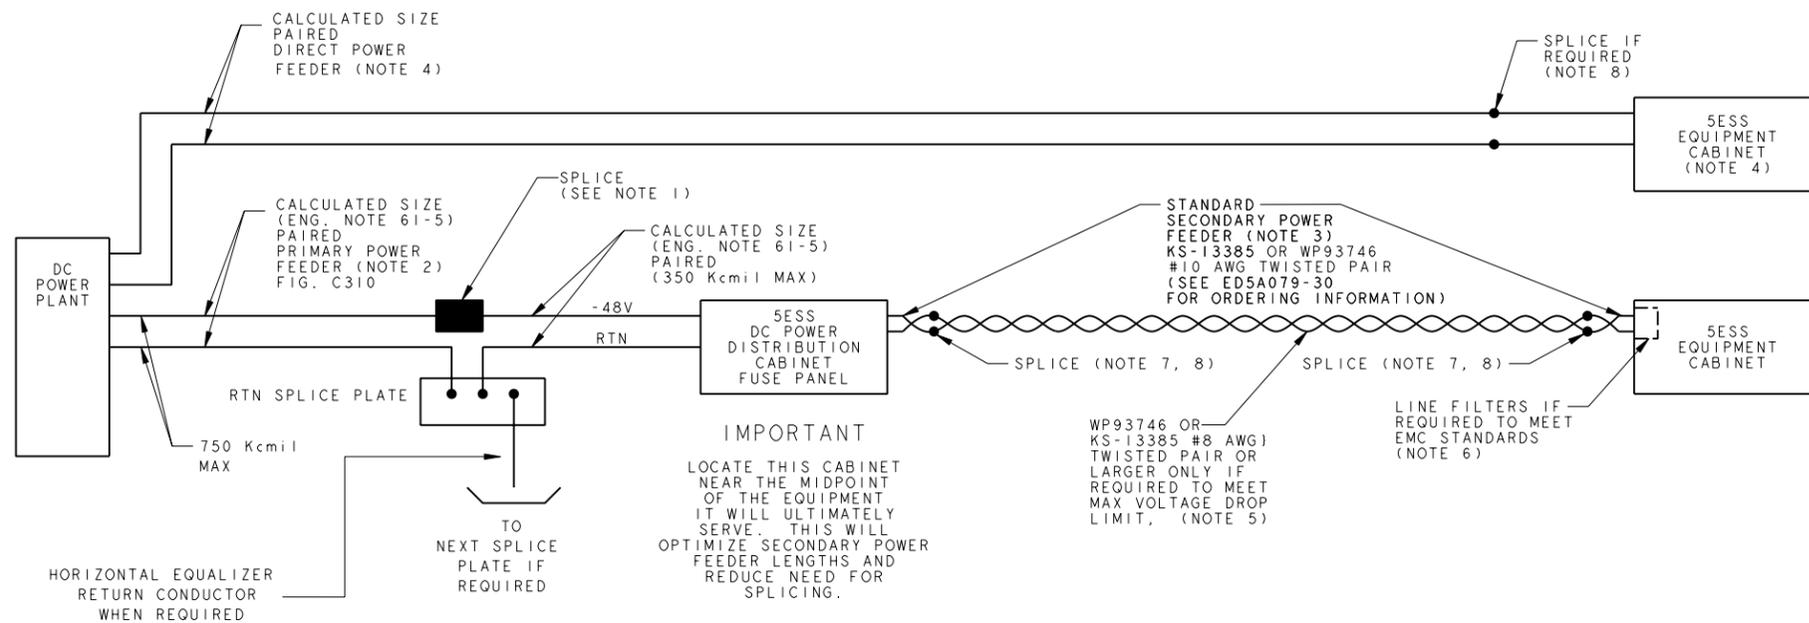

FIG. B40
SHEET NOTES FOR FIG. B40
PRIMARY POWER FEEDERS (4) A-BUSES AND (4) B-BUSES PER PDF MAX. (FIG. B40)
SECONDARY POWER FEEDERS (NOTE 1) (FIG. B40)